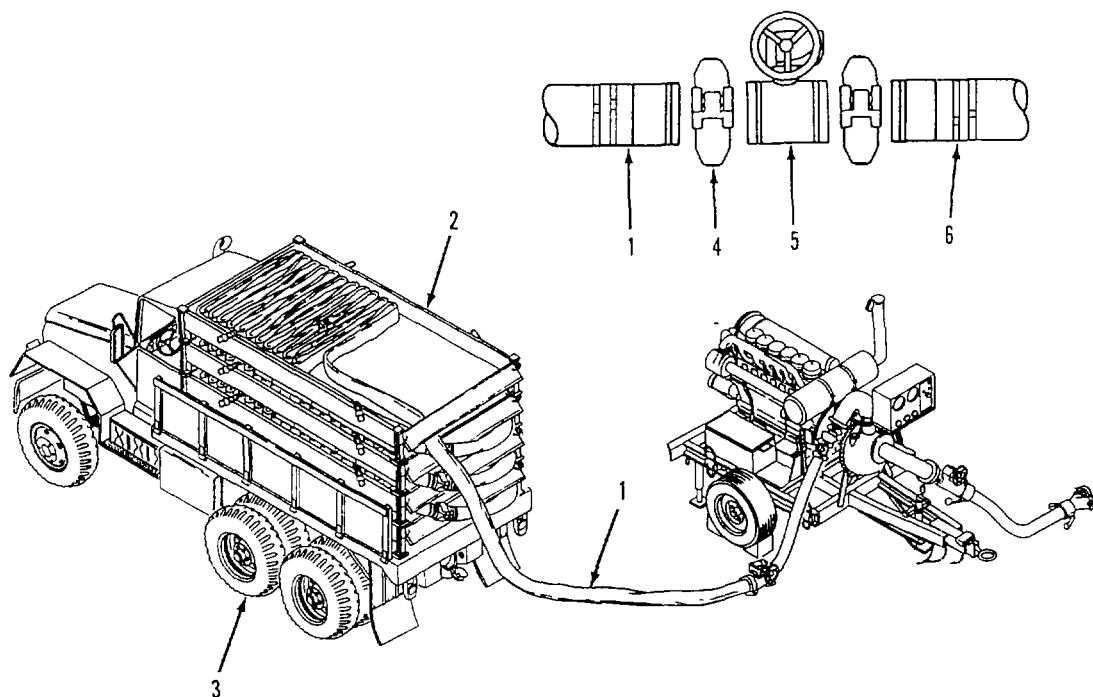

Figure 2-21. Laying Hoseline
*Lay Hoseline (Lead Pump Station to First Boost Pumping Station) Refer to figure 2-21.*
- (24) Manually pull about 50 feet of hose (1) from top of flaking box (2) and position on ground. Weight of hose will now hold line in place.
- (25) Connect end of hose (1) to butterfly valve (5) on lead pumping station discharge hose (6) with coupling clamp (4).